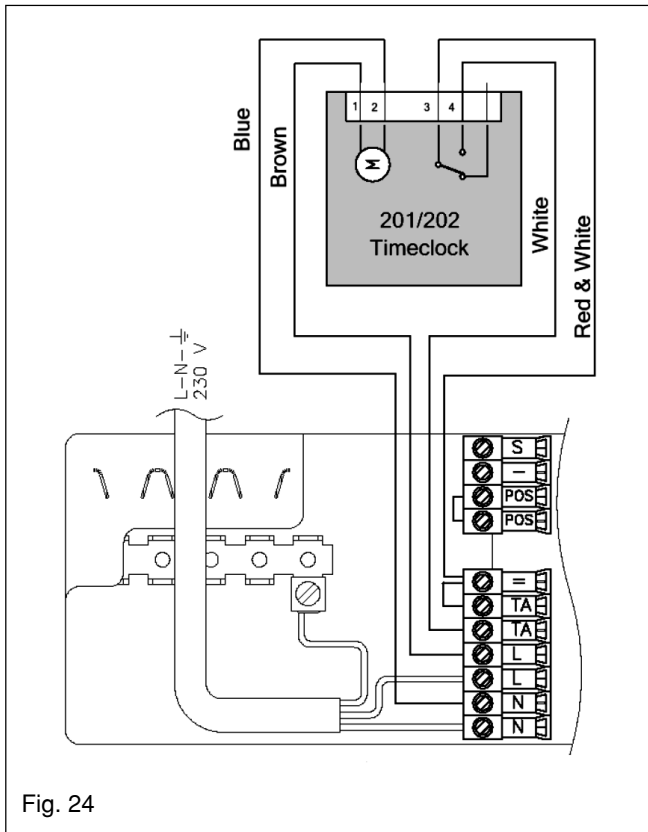

Fig. 24
4.7.3 CONNECTING THE MAINS (230V) INPUT (see fig. 24)
- using the clock wiring harness supplied in the accessory pack, connect the 4-wires to the clock as shown in fig 24.